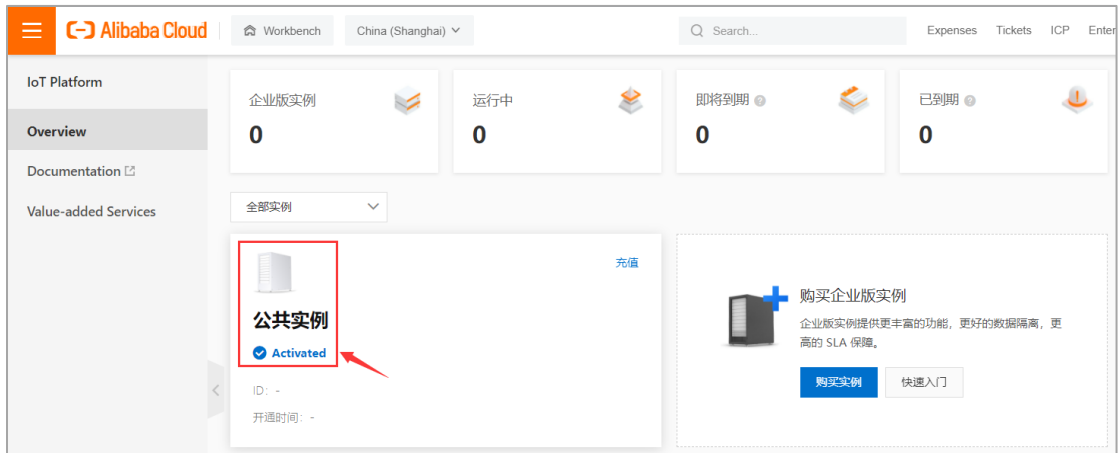

Fig. 6-23 Qingcheng Alibaba Cloud
- (1) Choose “Public Examples”. (See Figure 6-23).